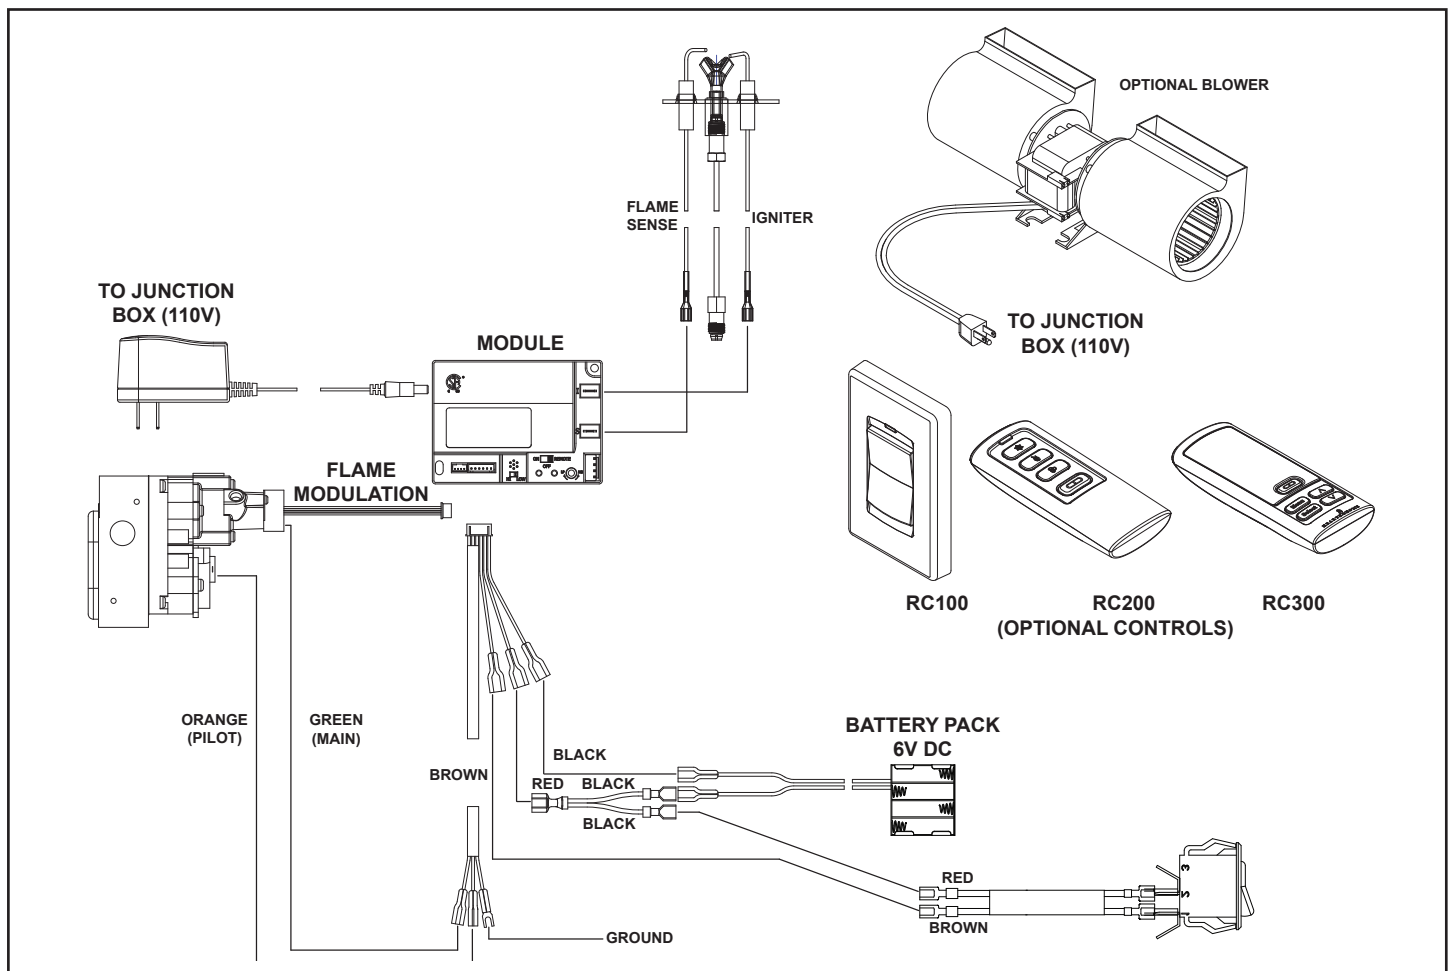

Figure 8.1 - IPI Wiring Diagram
- Refer to Figure 8.1, IPI Wiring Diagram.